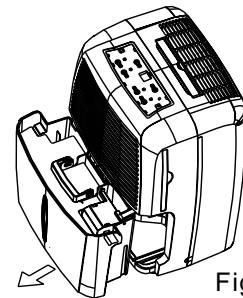
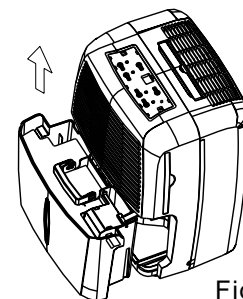

Fig.3
Fig.4
- Slowly pull out the tank (see Fig.3). Grip the left and right handles securely, and carefully pull out straight so water does not spill (see Fig.4). Do not put the tank on the floor because the bottom of the bucket is uneven. Otherwise the bucket will fall and cause the water to spill.